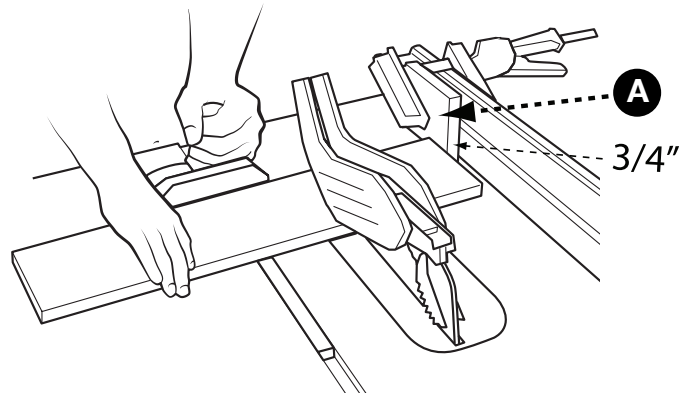

FIGURE 32
When crosscutting a number of pieces to the same length, you can clamp a block of wood (A) (Fig. 32) to the fence and use it as a cut-off gauge. The block (A) must be at least  $\frac{3}{4}$ -inch (19 mm) thick to prevent the cut off piece from binding between the blade and the fence. Once the cut-off length is determined, lock the fence and use the miter gauge to feed the workpiece into the blade.